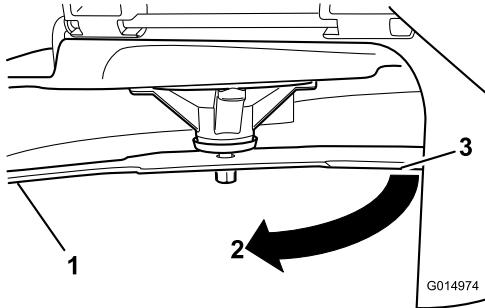

**Figure 54**
5. Measure from the tip of the blade to the flat surface (Figure 54).